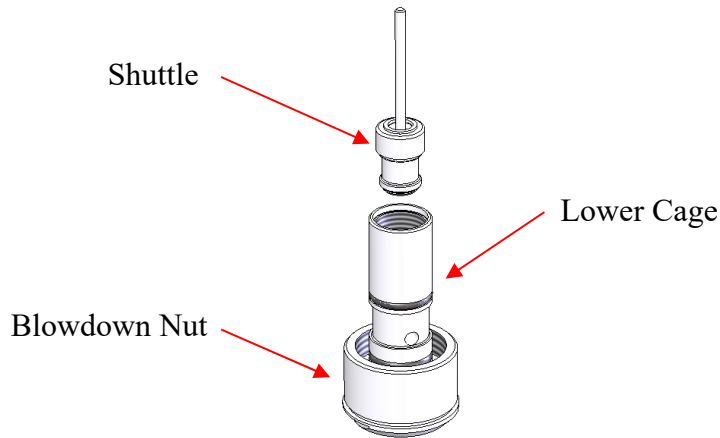
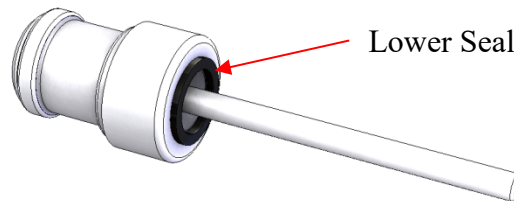

Figure 33: Shuttle and Lower Cage
Figure 34: Shuttle Subassembly
23. Remove the shuttle subassembly from the bore of the lower cage. See Figure 33. The shuttle has a lower seal. See Figure 34.